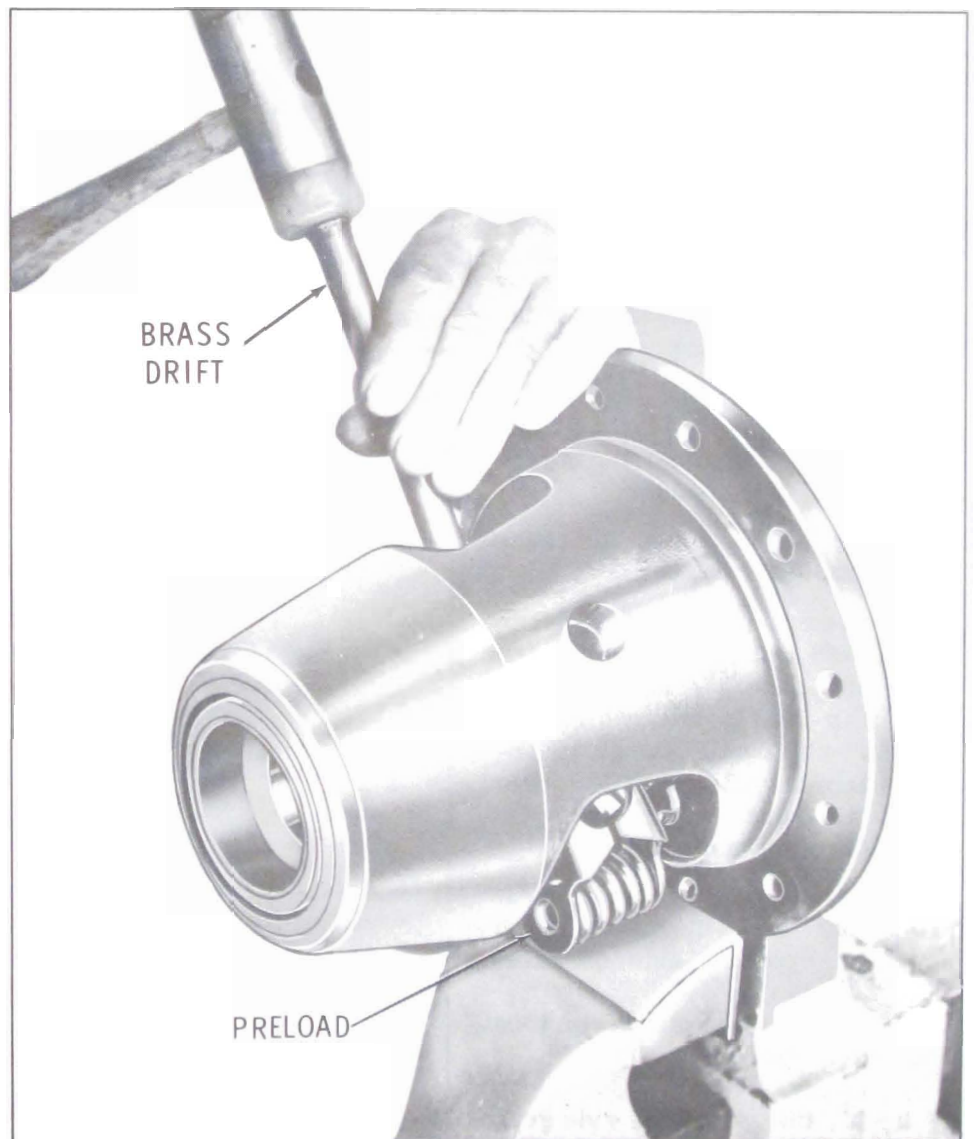

Fig. 6-84—Removing Preload Thrust Blocks and Springs
5. Remove the preload spring thrust blocks and spring from the case. See Figure 6-84.